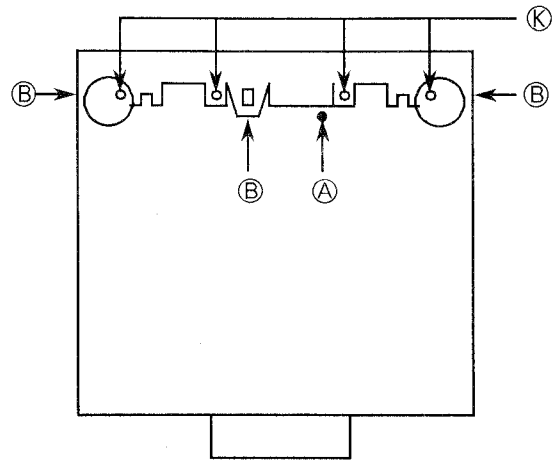

Fig. 1 Bottom view
- (1) Remove the cassette mechanism assembly .
- (2) Remove the cassette holder
- (3) Remove the 4 screws ⑩ (Fig. 1) and remove the holder brackets .
- (4) Remove the screw fastening the EJECT knob holder .
- (5) Remove the 4 screws fastening the PC Board .